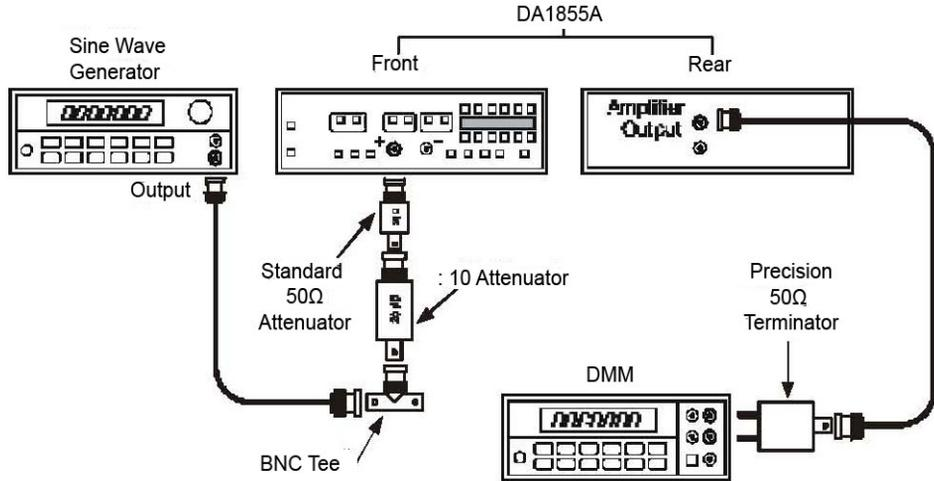

Figure 13, X10 Gain Accuracy Setup
- t. Insert the precision 50Ω termination between the other end of this cable and the input of the DMM. See Figure 13.